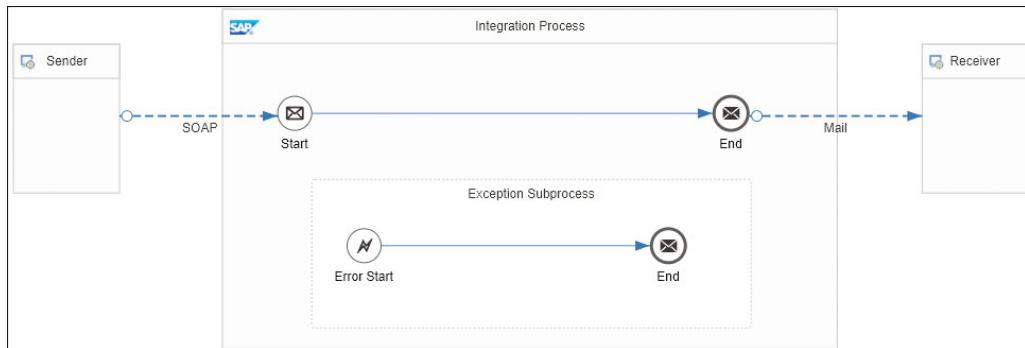

Figure 6.45 Exception Subprocess Placed within the Integration Process Shape
2. You can only place the **Exception Subprocess** in the **Integration Process** shape, which results in the change shown in Figure 6.45.